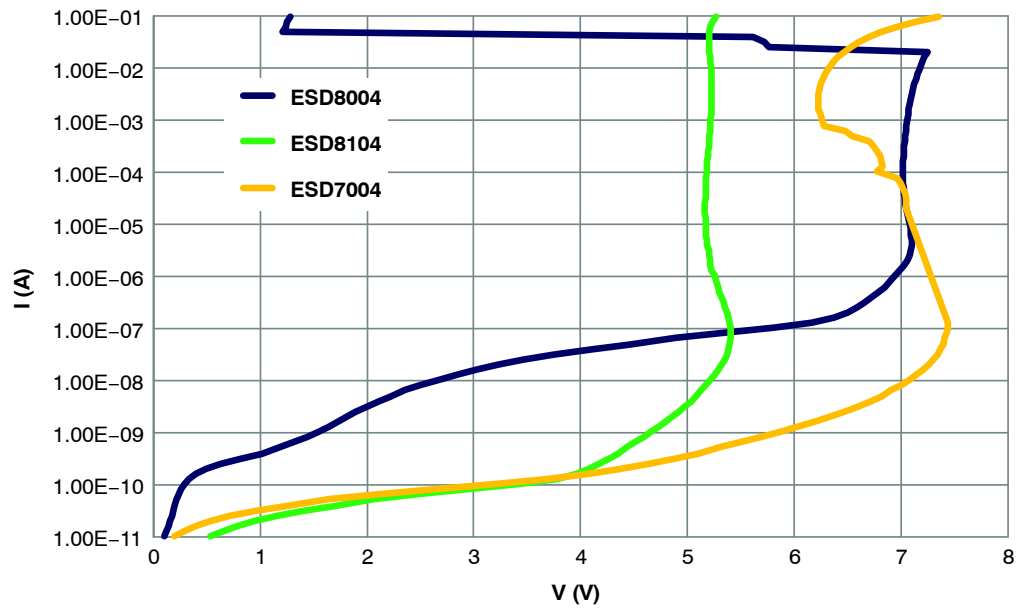

Figure 19. Low Current, DC, IV Characteristic of Each Technology
- ESD8100 series: Low voltage punch through (LVPT) type technology. The key advantage for this technology is a very low turn-on voltage as shown in Figure 19. This technology provides optimized protection for chipsets with small geometries against recoverable failures due to voltage peaks (also known as “soft failures”).